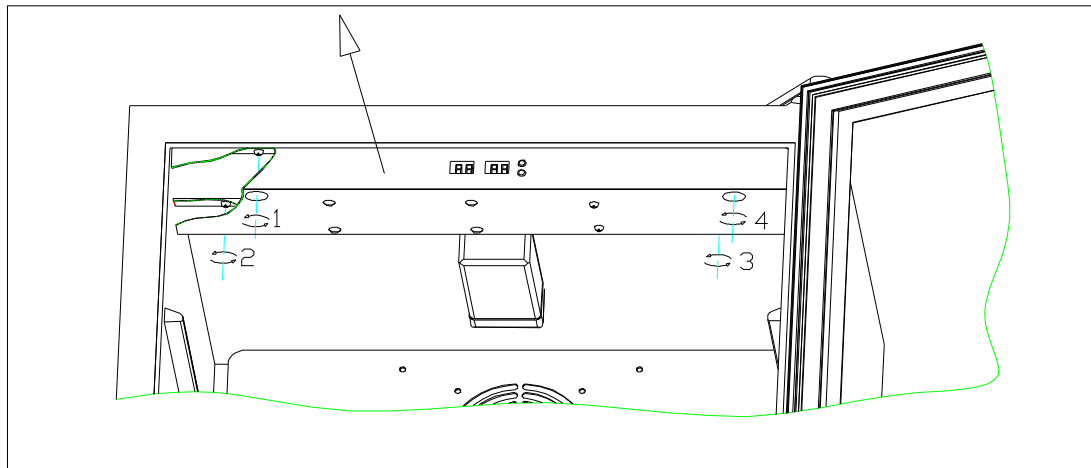
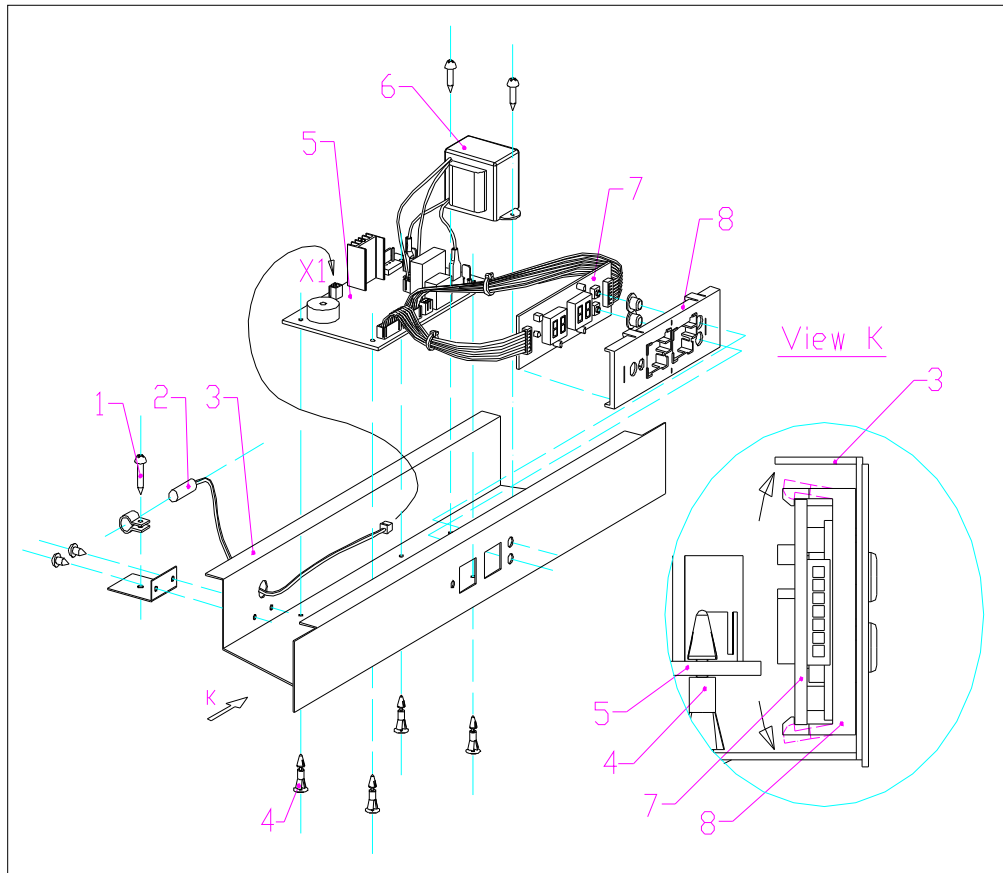
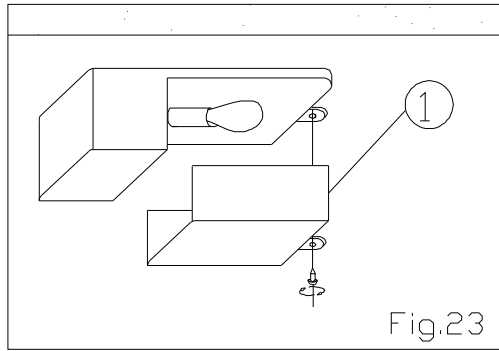

Fig.18
Fig.19
Fig.23
Check the faulty part and relevant connection. If this does not cure the fault replace the control board see (Fig.18 & Fig.19)
- 1 >. Normally the LED temperature display should show the ambient temperature shortly after the unit is plugged in, if not, disassemble the electrical box see (fig 18), check if the sensor plug marked “X1” “X10” connected properly, if these connections are made correctly and the fault persists replace this sensor after the air duct board(Fig.1, Fig.2, Fig.3, Fig.4 & Fig.5).
1 >. Normally the LED temperature display should the ambient temperature shortly after the unit is plugged in, if not, disassemble the electrical box see (Fig.18 & Fig.19), check if the sensor plug marked “XI” connected properly, if this connection is made correctly and the fault persists replace this sensor,
- 2 >. If the LED displays” E1” it indicates the inner sensor should be replaced see (Fig.18 & Fig.19)
- 3 >. If the LED displays” E2” it indicates the inner sensor should be replaced see (Fig.18& Fig.19)
- 4 >. For some older models with old computerized control panels,If the LED displays 37°C, 99F or, infinity, replaces the sensor. See(Fig.18& Fig.19)
Replace the electrical display board fault; see (Fig.18& Fig.19)
- 2 >. Remove the two screws at back of electrical box (2,3), then half-remove the two front screws (1,4), then remove the electrical box; see (Fig.18)
- 3 >. Remove the sensor fixing screw (1), unplug the other end from “X1” housing of the control board, and fit a new sensor; see; (Fig19)
- 4 >. Unplug all the connectors, then press the head of each of the four plastic screws (4) one by one, then remove the control board and replace the control board see (Fig.19)
- 5 >. Remove the two transformer fixing screws and replace the transformer (6);(Fig.19)
Pull the four 4 display cover (8) fasteners as per arrowhead direction, and then remove the display board and its two connectors from both sides. Replace the display board. See (Fig.19)
model1: PCB board is a complete block,and in the electicial box of the same box with the transformer;(Fig.19)
Unplug all the connectors from the control panel, and press the 4 studs (4) one by one, and up draw the control panel, Replace it with the same model’s PCB board; (Fig.19)
- a. Remove the the shelf , (Fig.19)
- b.Unplug all the connector, press the 4 studs (3) one by one. Updraw the control PCB board, and draw off the PCB board, , replace it with the same model's PCB board. (Fig.19)
- a. Remove the screw fixing lamp cover(Fig.18),take off the lamp cover(Fig.23).